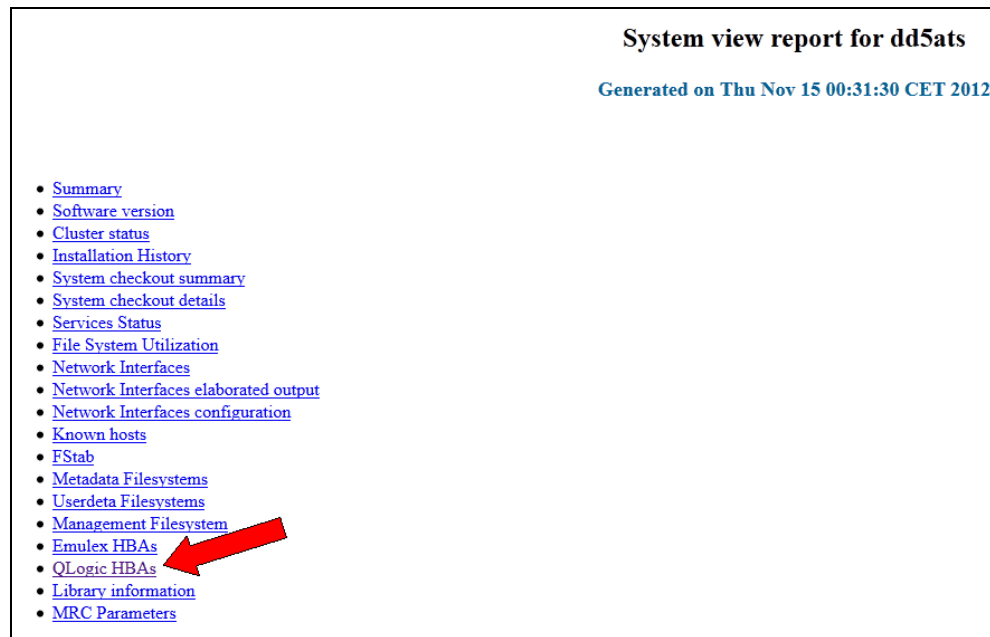

Figure 9-9 Browser showing the `systemview.html` file
2. Open the `systemview.html` file with a browser. A list of selectable items is displayed. Click **QLogic HBAs** (Figure 9-9).
Note: The QLogic HBA example shown in Figure 9-9 and Figure 9-10 applies only to DD4 and DD5 servers. The latest DD6 server uses Emulex adapters for both the front-end HBAs that connect from ProtecTIER to the backup server, and for the back-end HBAs that connect from ProtecTIER to the attached disk storage subsystem that acts as a repository.